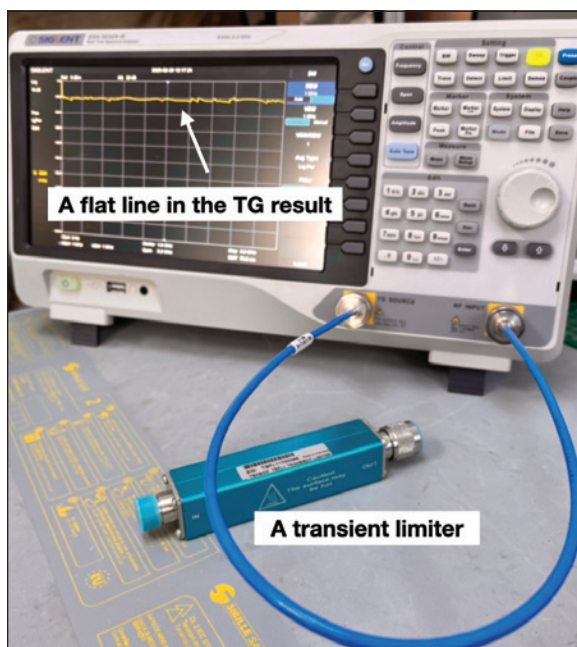

Figure 1
- If the spectrum analyzer has enabled the tracking generator (TG) function, simply connect the TG output and the spectrum input using a coaxial cable and perform a TG scan. One should see a flat, straight line across the whole frequency range at the supplied TG power level (often between -20 dBm and 0 dBm). This is shown in Figure 1.